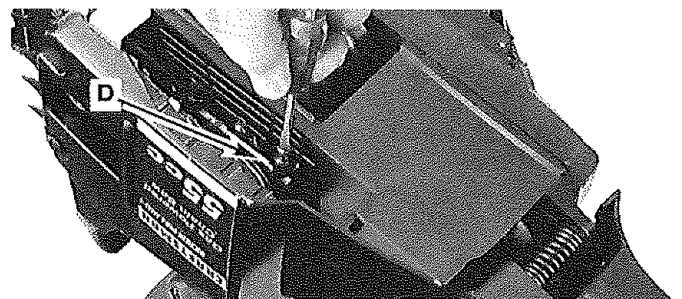

Fig. 11
Your chain saw is equipped with an automatic gear driven oiler system. The oiler automatically delivers the proper amount of oil to the bar and chain. As the engine speed increases, so does the oil flow to the bar. The amount of oil flowing to the bar and chain may be changed by turning the adjustment screw (D) with a small flat head screwdriver as shown in Fig. 11. Turn the screw clockwise to DECREASE oil flow and counterclockwise to INCREASE the flow.